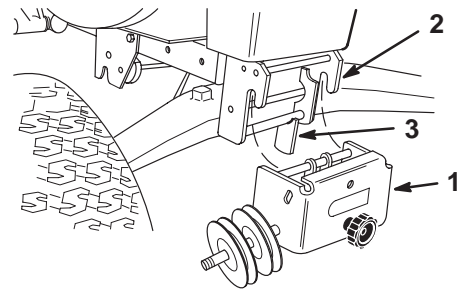

Figure 18
5. Open front hitch and remove pulley assembly (Fig. 18).